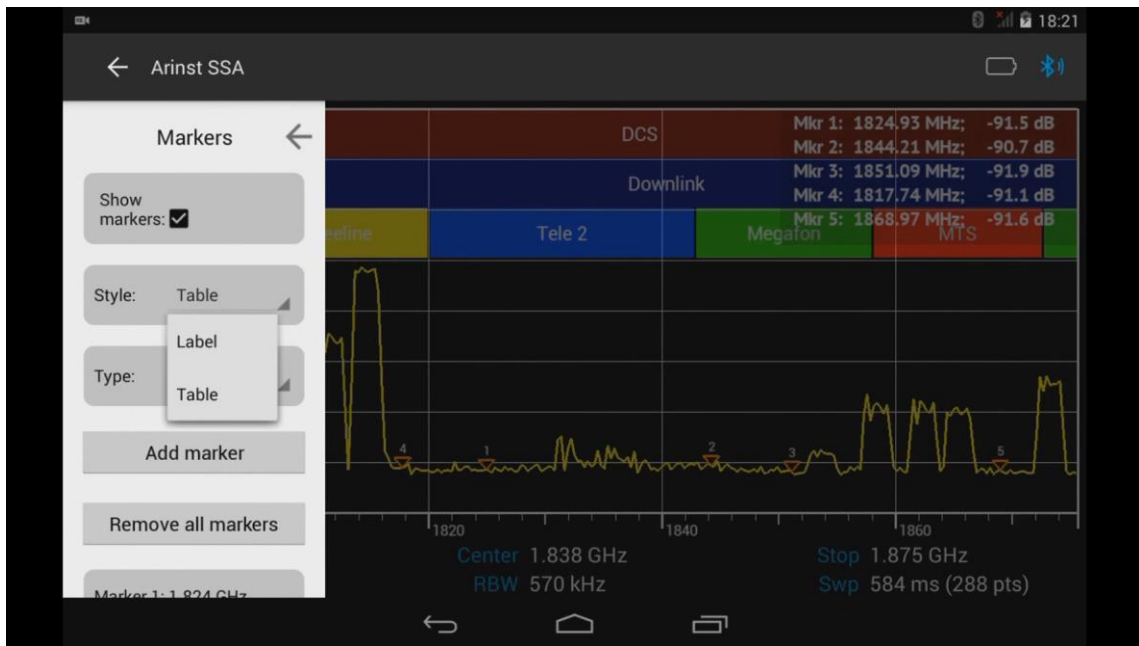

Figure 41 – Selecting the appearance of markers on the screen
8.7.5 To set the appearance of the markers on the screen of the tablet / smartphone, go to the **Style** menu and select one of the display values of the markers **Label** or **Table**, as shown in Figure 41.